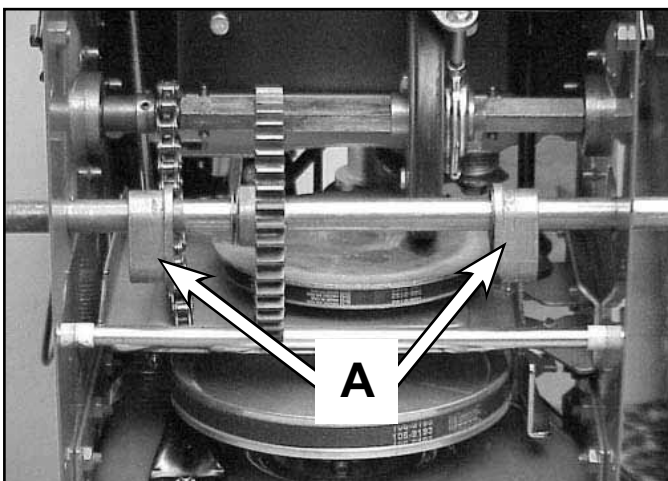

Fig 104
7. Slide the axle a little to the right. Move both axle bearings inward (Fig. 104) then slide to the right until the left end of the axle comes out of the side plate. Withdraw the axle and remove the thrust washers, bearings, gear and key.